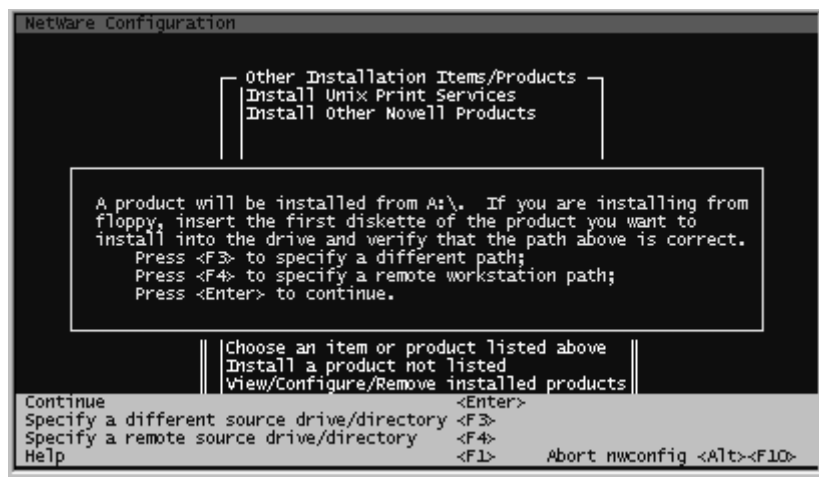

Figure 3-26. Drive Selection Pop-Up
- Select “**Install a product not listed**” and press the **ENTER** key. A pop-up box (Figure 3-26) will appear allowing you to specify a drive to be used for installation. Press **F3** to enter the path of your CD.
4. Select “**Install a product not listed**” and press the **ENTER** key. A pop-up box (Figure 3-26) will appear allowing you to specify a drive to be used for installation. Press **F3** to enter the path of your CD.